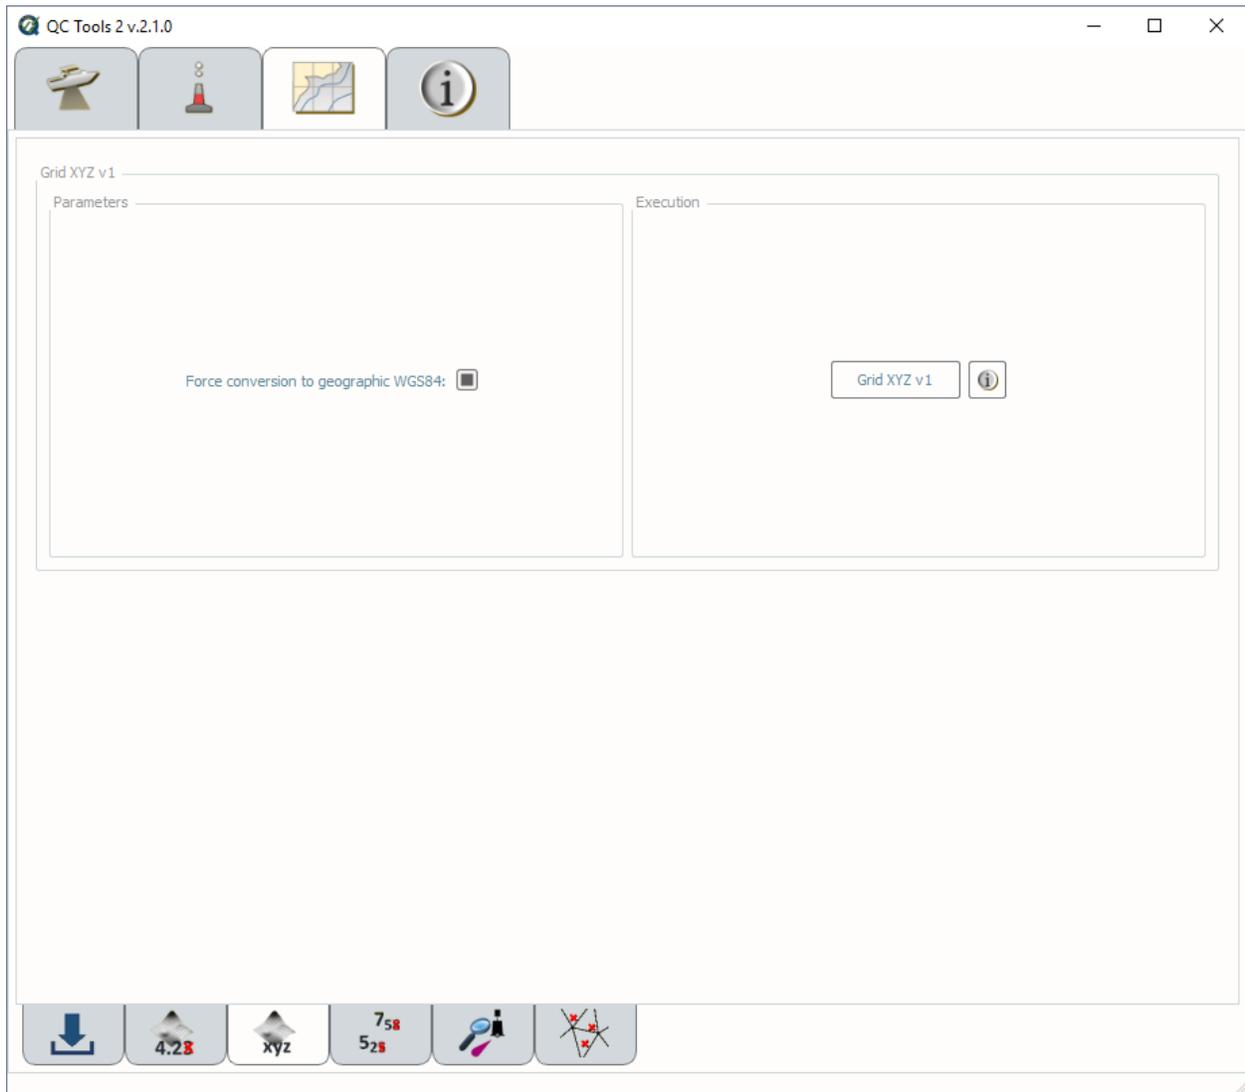

Fig. 2.43: Grid XYZ's interface.
- In **Execution** (Fig. 2.43), click **Grid XYZ v1**.